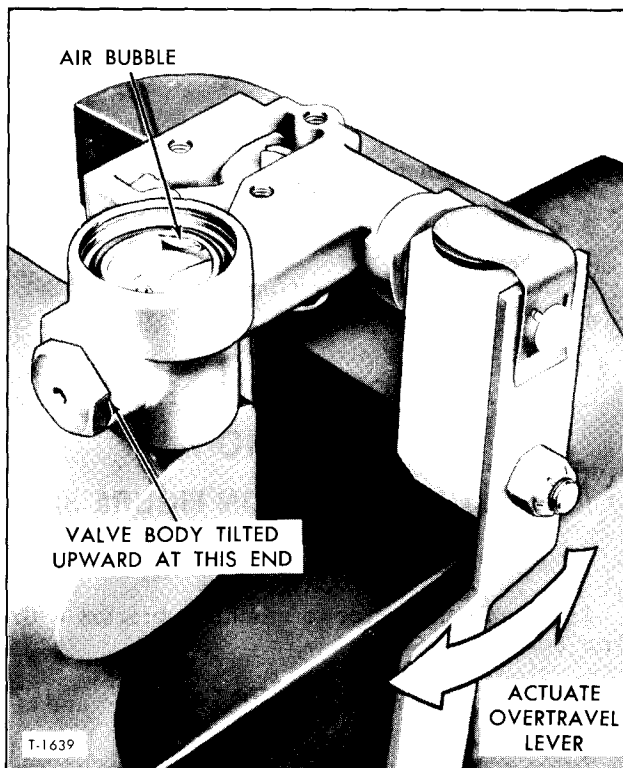
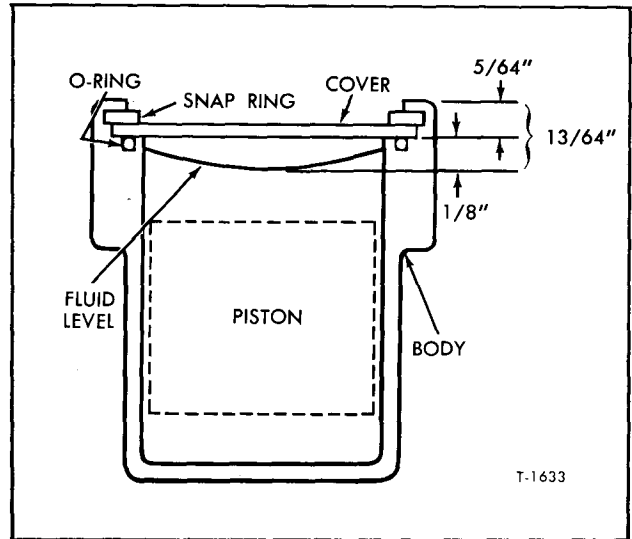

Figure 54—Venting Air From Silicone Fluid
Figure 55—Silicone Fluid Level
1. Pour 5.5 cc ± 0.25 cc of Silicone fluid (3,000 Centistokes viscosity at 25°C.) into delay piston bore. With valve body tilted slightly, as shown in Figure 54, carefully operate overtravel lever fore and aft to vent air from fluid. When all air has been expelled from piston pin cavity, check fluid level (figure 55).
IMPORTANT: With valve assembly level, take measurement from center of bore only. Add or Remove fluid to bring fluid to dimension shown in Figure 55. An eyedropper will serve for this purpose.